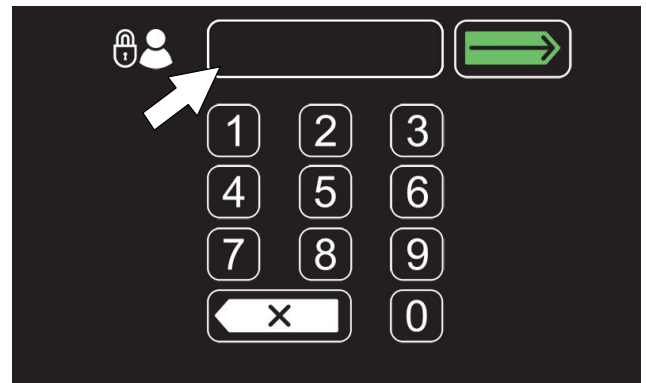

FIG. 163
6. Now at machine start up, the login screen will display (Figure 163). The user will need to enter their assigned login code to operator machine.